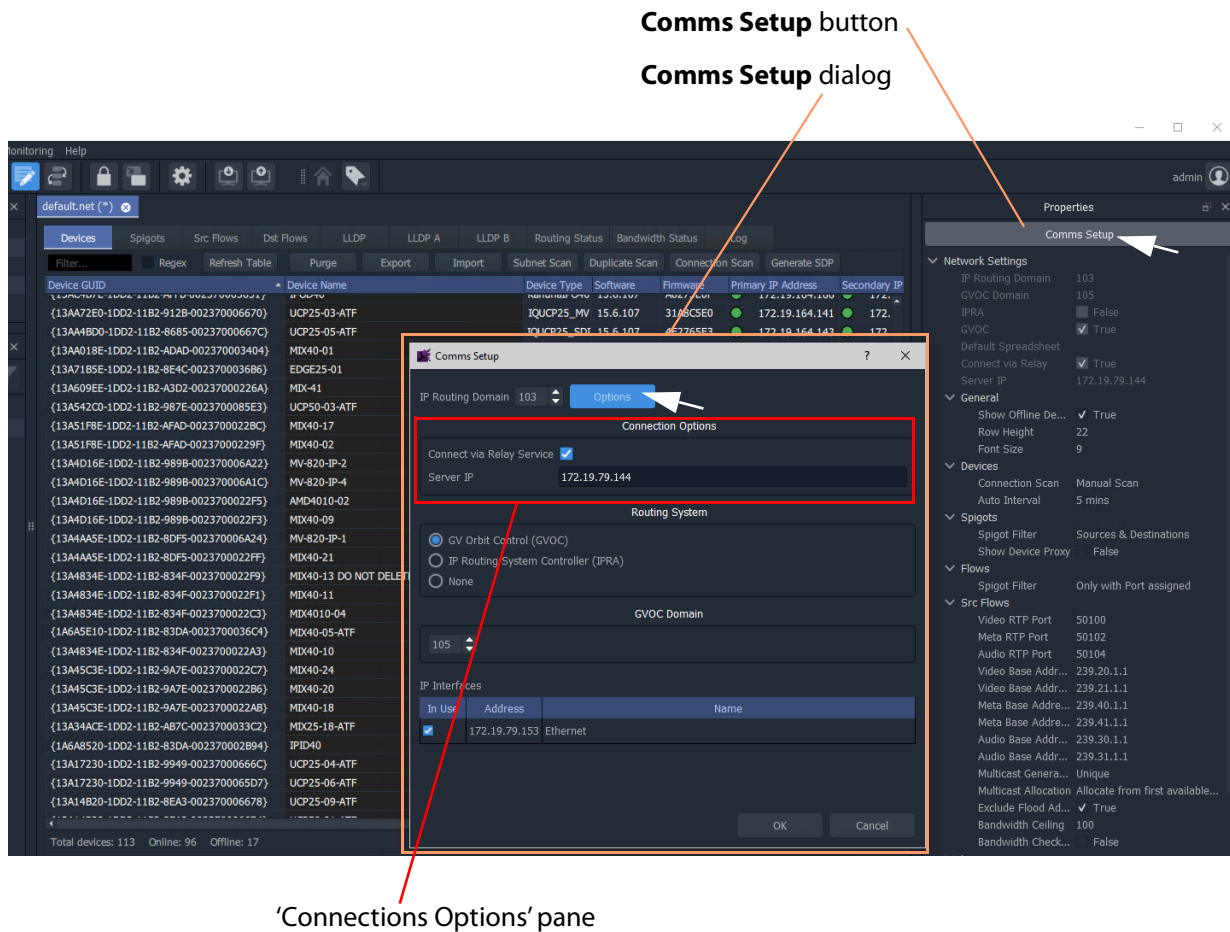

Figure 91: Comms Setup Button and Dialog in a GV Orbit Network Project
- 2 Click on the **Comms Setup** button to open the **Comms Setup** dialog. See Figure 91.